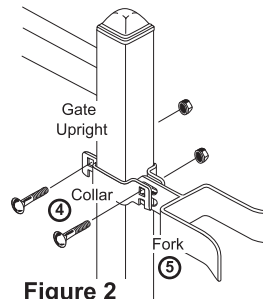

Figure 2
Step 4 - Hold two halves of collar around gate upright slightly below top rail, making sure that square hole is above the notch (see Fig. 2).